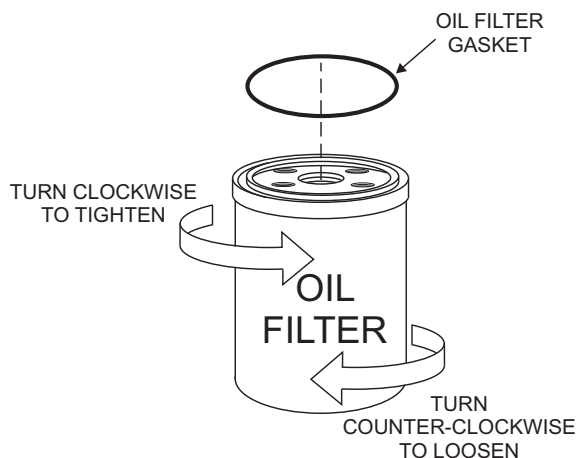

Figure 19. Oil Filter
1. Replace engine oil filter (Figure 19) after 250 hours of operation.